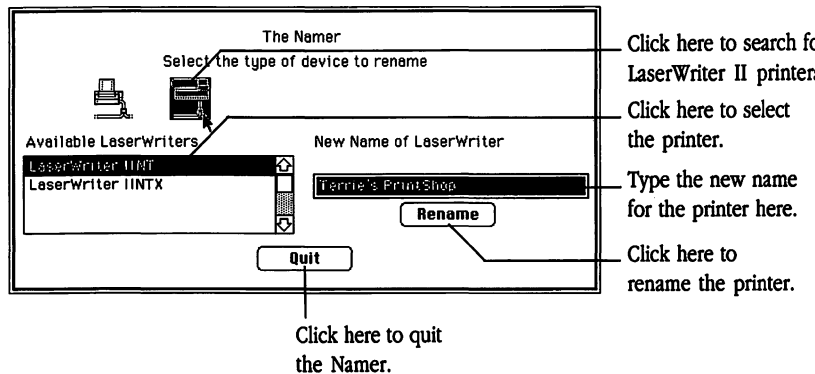

Figure 2-3 The Namer dialog box
4. Click the LaserWriter icon (see Figure 2-3).
You'll see the LaserWriter II listed (as *LaserWriter IINT* or *LaserWriter IINTX*) in the Namer dialog box. (See Figure 2-3.)